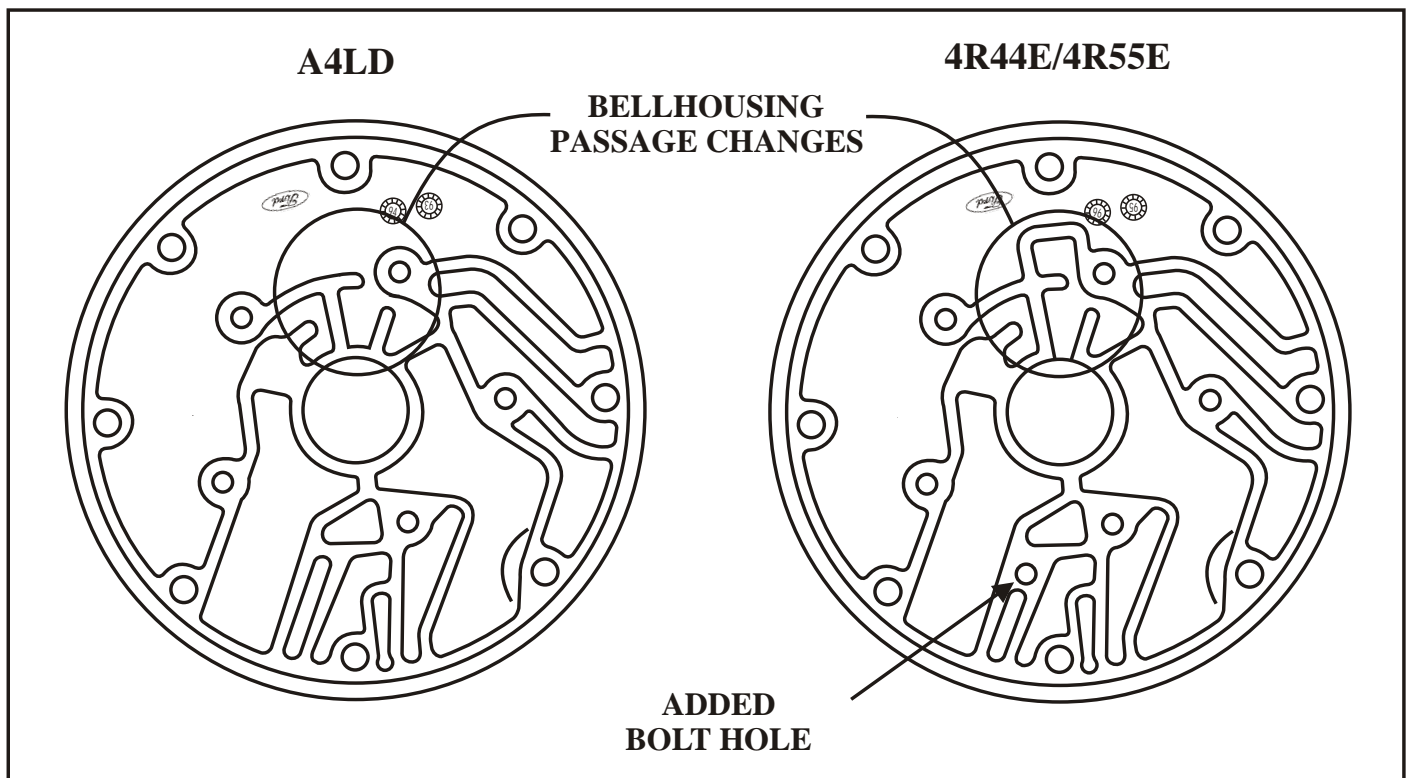

Figure 4
- (4) BELLHOUSING - The 4R44E/4R55E bellhousing has an added passage to accommodate the pump body changes for increased lubrication to the converter hub bushing, as shown in Figure 4.